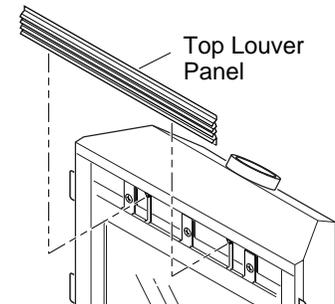

Figure 47 - Removing Top Louver Panel
- Remove the upper louver panel by lifting upward and out (see Figure 47).